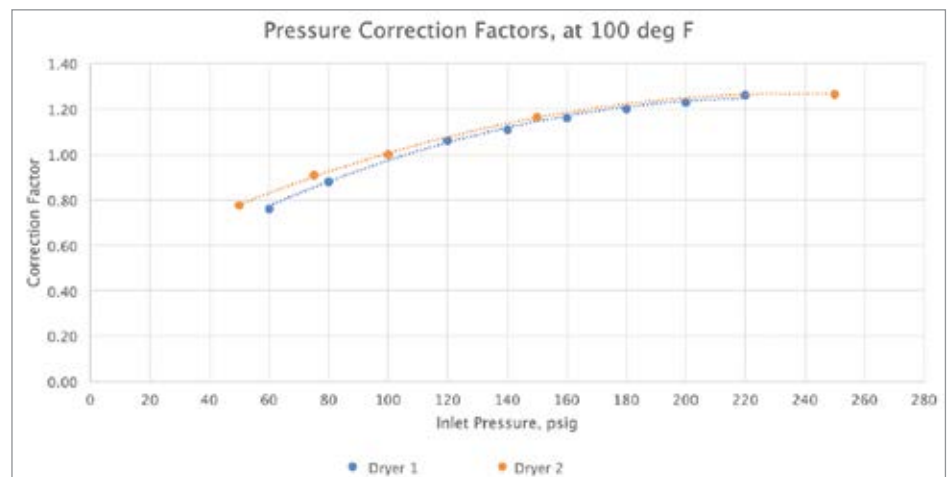

Figure 1. Typical Refrigerated Air Dryer Correction Factors for Temperature
saturated, or 100% relative humidity (RH), water vapor is at the "saturation pressure." Thus, a higher temperature compressor outlet dramatically affects the water vapor load on the dryer. For every 10 °F increase, the mass of water increases about 35%. See Figure 1 for two manufacturers' correction charts for refrigerated air dryers.